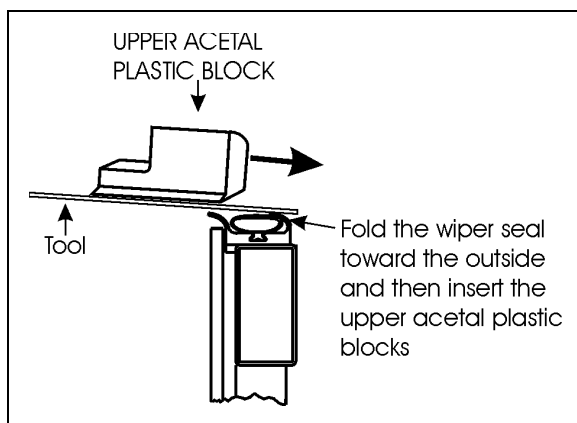

FIGURE 27: LOWER ACETAL PLASTIC BLOCK INSERTION
6. Installation is the same as removal but in reverse order. When reinstalling the upper acetal plastic blocks, fold the wiper seal toward the outside with a flat tool to ease installation (FIGURE 27). Before tightening, make sure the acetal plastic blocks are leaning against the rail and the linear bearing. Tighten the mounting screws to a torque of 7 ft-lb.